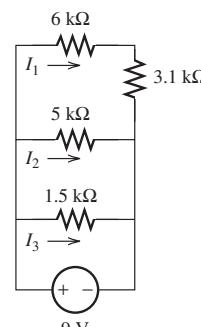

FIGURE P3.25 Circuit for Problem 3.25.
- 3.25 (H)** Find I_1 , I_2 , and I_3 in Figure P3.25.